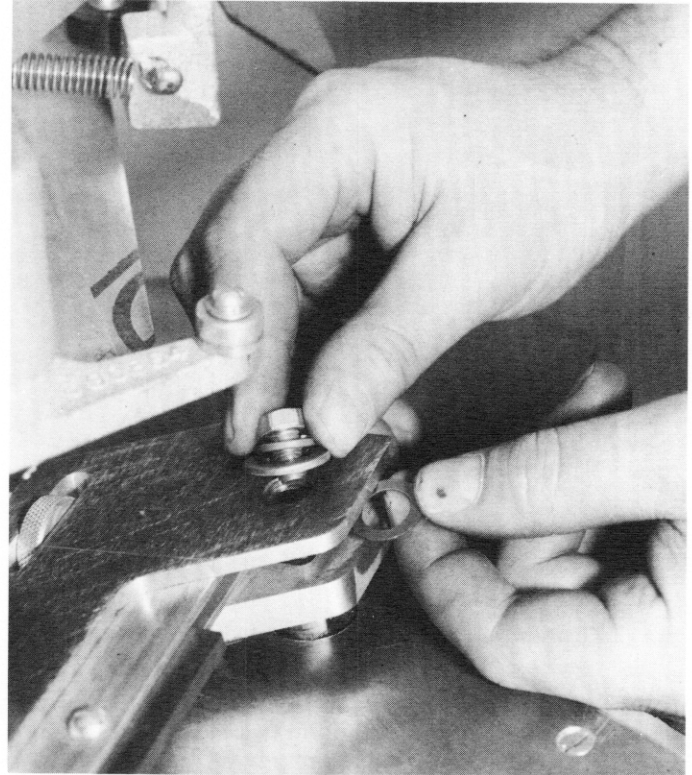

Figure 7 — Shimming Between Throwing Arm Carrier and Top of Mainshaft Assembly
- B. Correct attitude is obtained by shimming between throwing arm carrier and top of mainshaft assembly (see section VII, 1-D for disassembly of throwing arm assembly). The distance between upper edge of guide rail and target shoulder should be approximately  $1/32''$  (see Figure 7).